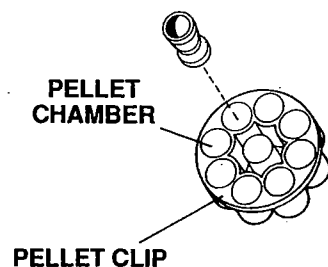

FIG. 5
- For ease of loading, remove the pellet clip and place a .177 pellet, nose first, in each pellet chamber. (Fig. 5) To avoid jams or deforming pellets, make sure each pellet skirt is level or slightly below the rim of the pellet chamber.